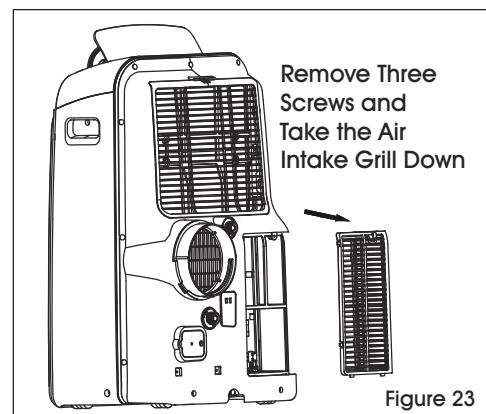

Figure 23
- Remove the lower filter B by loosening the screws. Take down the air inlet grill, then remove the air filter. (See Figures 23 and 24)